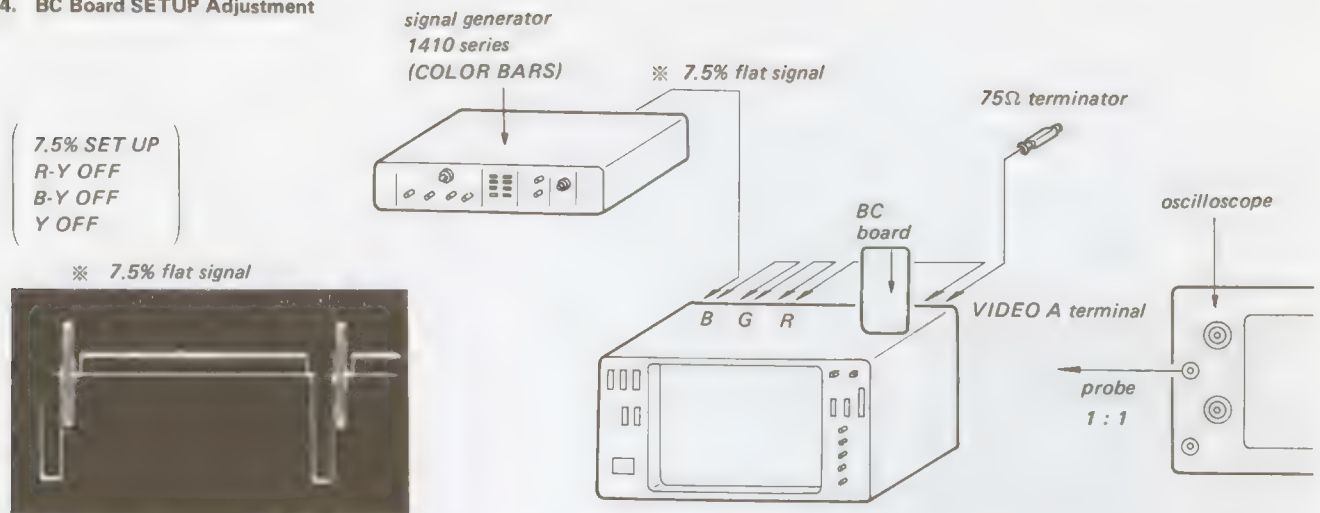

Fig. 5-85.
1. Complete the connections as shown in Fig. 5-85.